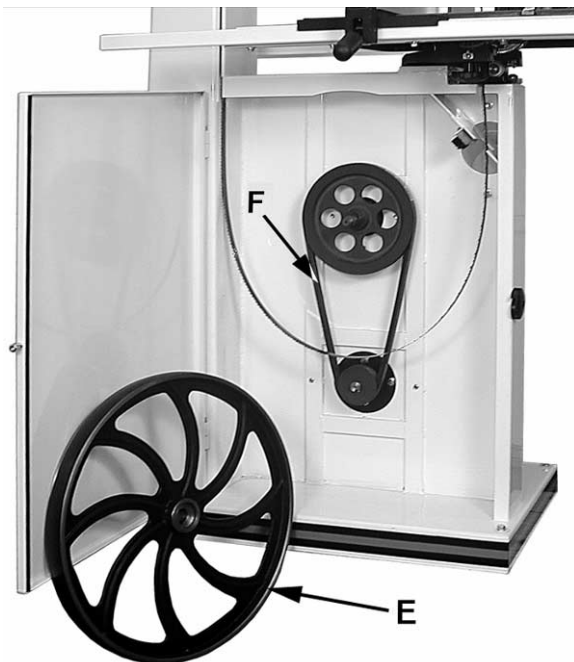

Figure 28
5. Remove the *wheel* (E, Fig. 28). If the lower wheel does not come off easily you may need to use a pulley puller to remove it.
6. Remove the *old belt* (F, Fig. 28) and install the new belt.